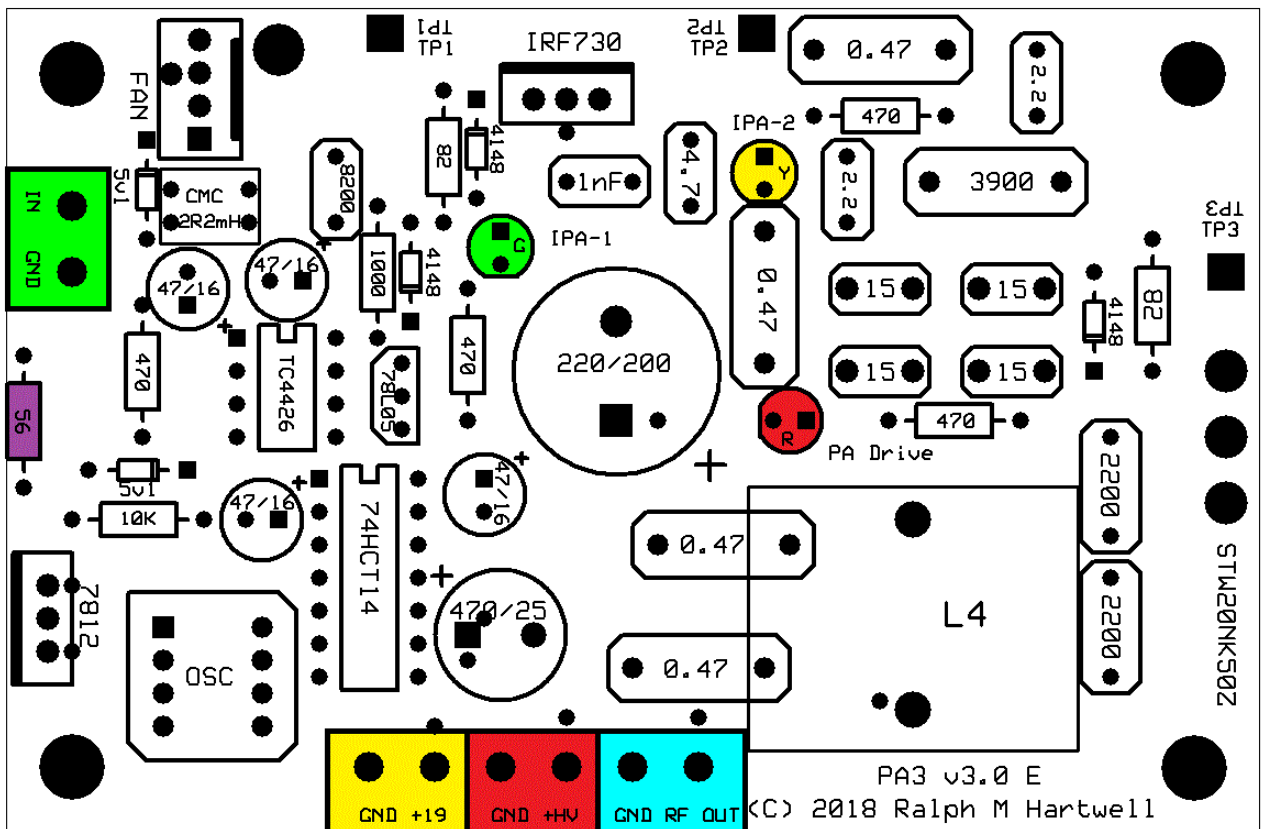

Figure 1
**Please refer to Figure 1 for the location of the following connections.**